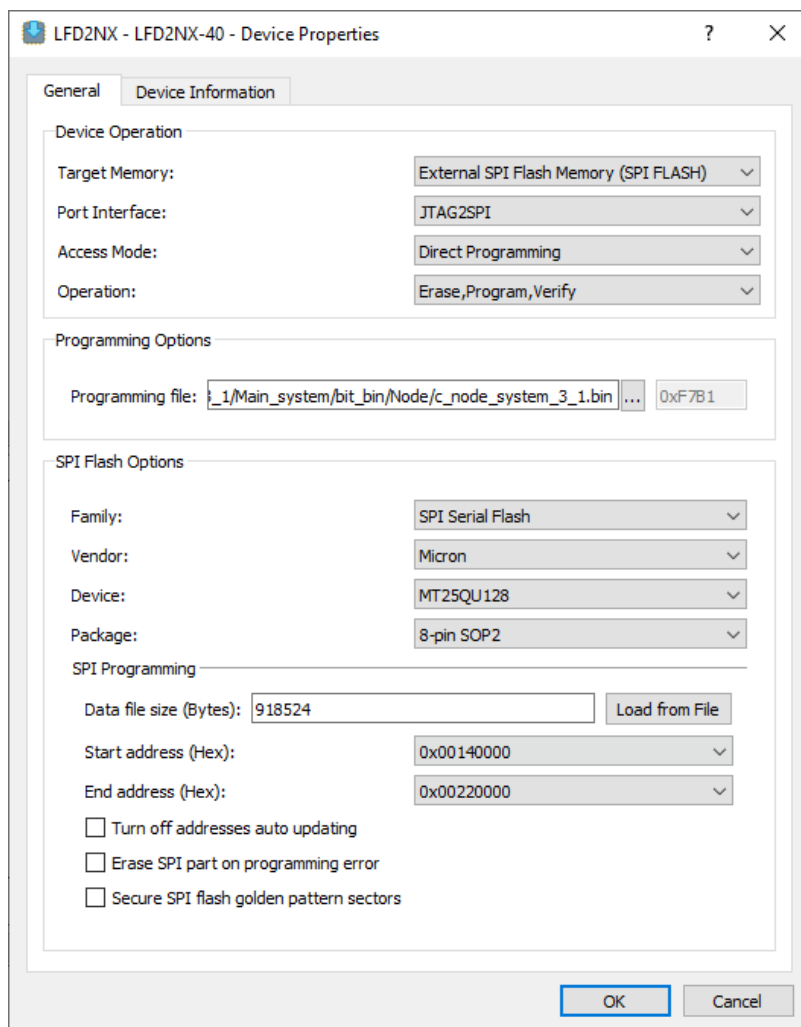

**Figure B.20. Radiant Programmer - Bit Stream Flashing Settings (Node System)**
8. To program the bitstream file, select the options as shown in Figure B.20.